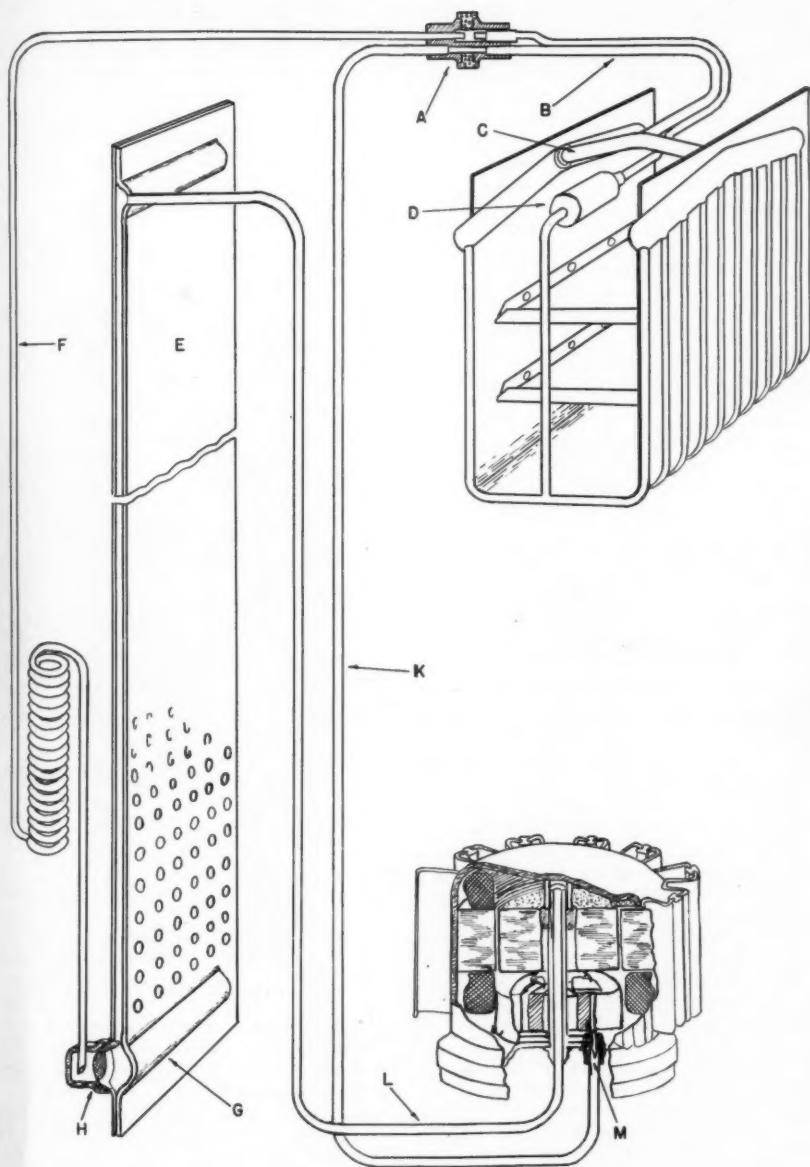

FIG. 2. CHART OF COMPLETE SYSTEM.
**Condenser.**—The condenser (Fig. 2) is constructed of two large flat steel plates, spot-welded in a manner which permits the free flow of the refrigerant between the plates. The plates are "dimpled," which provides additional surface to the plate and creates a circuitous route for the flow of the refrigerant. The condenser has a header at the top which distributes the gas across the width of the plates, and a header at the bottom which collects the liquid refrigerant. To allow for sufficient circulation of air past the condenser, it must be set a few inches away from the wall of the cabinet which is